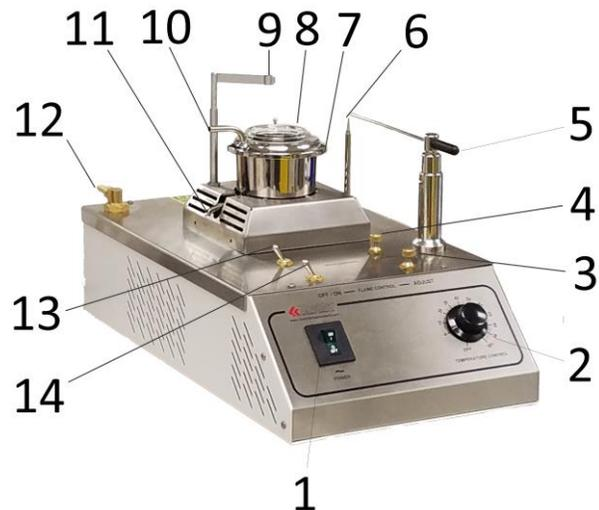

Figure 1: Instrument Descriptions\_Front
**NOTE:** Be sure Flame Control Switch (Figure 1, Item 3) is in the OFF position when Test Flame Applicator is not in use.
3. Place a Thermometer in the Thermometer Holder (**Figure 1, Item 9**).
4. With the glass test cup (**Figure 1, Item 8**) in place in the bath (**Figure 1, Item 7**), adjust the thermometer holder (**Figure 1, Item 9**) so that the thermometer is supported firmly in a vertical position halfway between the center and edge of the cup and on a line passing through the center of the cup and the pivot of the taper. Place the thermometer so that the bottom of the bulb is 1/4 in. (6.4 mm) from the inner bottom of the cup.
5. Fill the test cup (**Figure 1, Item 8**) with sample to a depth of approximately 1/8" (3.2 mm) below the edge as determined by the K15610 Leveling Device.
6. Connect the gas source to the Gas Inlet Port (**Figure 1, Item 12**) at the back of the unit.
7. Push the Pilot Flame Switch (**Figure 1, Item 13**) to the ON position and light the Pilot Flame (**Figure 1, Item 6**). Using the Pilot Flame Gas Adjustment Knob (**Figure 1, Item 4**), adjust the size of the flame to form a spherical shape
matching in size of the 5/32" (4 mm) flame guide sphere located on the Liquid Bath reservoir (**Figure 1, Item 7**).
8. Push the Test Flame Switch (**Figure 1, Item 14**) to the ON position and light the Test Flame Applicator (**Figure 1, Item 5**) using the Pilot Flame.
9. Using the Test Flame Gas Adjustment Knob (**Figure 1, Item 3**), adjust the size of the flame to form a spherical shape matching in size of the 5/32" (4 mm) flame guide sphere located on the Liquid Bath reservoir (**Figure 1, Item 7**).
10. Press Power Switch (**Figure 1, Item 1**) to the ON position.
12. Turn the Temperature Control Dial (**Figure 1, Item 2**) clockwise and apply heat to the vessel in such a manner that the temperature of the test sample in the test cup rises at a rate of  $2 \pm 0.5$  °F ( $1 \pm 0.25$  °C)/min.